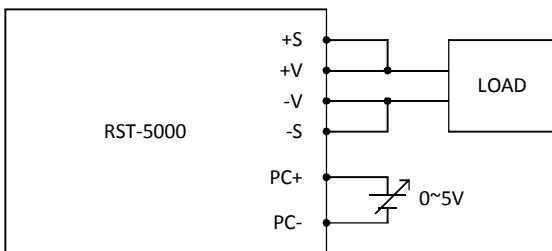

Fig 4.1
- (1) Switch DIP-SW position-3 to upper position(ON) when AC power off.
- (2) Using external voltage source between PC+ and PC- on CN313 or CN314 that is shown in Fig 4.1.